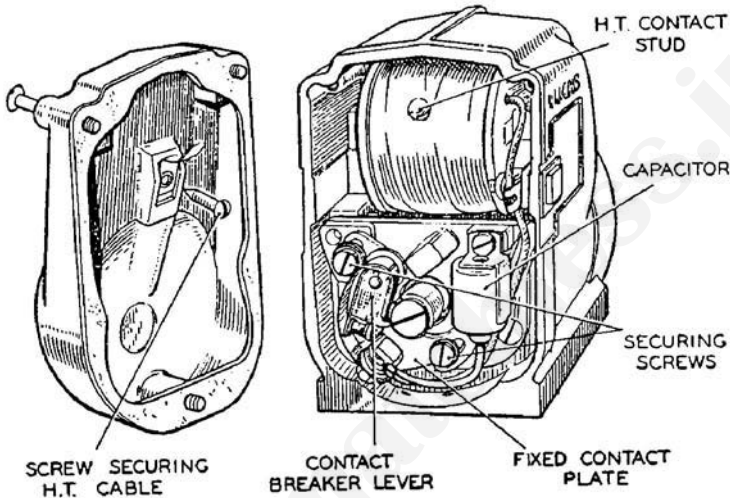

FIG. 46. CONTACT-BREAKER END OF LUCAS ROTATING-MAGNET MAGNETO (1954 ONWARDS)
The correct procedure for checking the contact-breaker gap is as described for the magneto on 1945-53 models, described in sub-paragraph (1) to (3) on page 75. Should an adjustment of the contact-breaker gap be necessary, slacken the two securing screws (see Fig. 46) holding the fixed contact plate and move the plate as required until the gap is correct. Having made the required adjustment, firmly tighten the two securing-screws, again check the gap, and finally replace the moulded cover. Tighten its three fixing-screws firmly.
To Renew h.t. Cable (1954 Onwards). Where a Lucas rotating-magnet type SR-1 magneto is fitted, 7 mm. rubber-covered ignition cable is also required for renewal purposes. To connect to the magneto, first remove the moulded cover from the contact-breaker side, and unscrew the pointed screw (see Fig. 46) from the back of the cover. Pull out the old ignition cable and push the new cable right home. Then secure the cable by tightening the pointed screw. Its point will penetrate the insulation and ensure good electrical contact with the core of the cable.